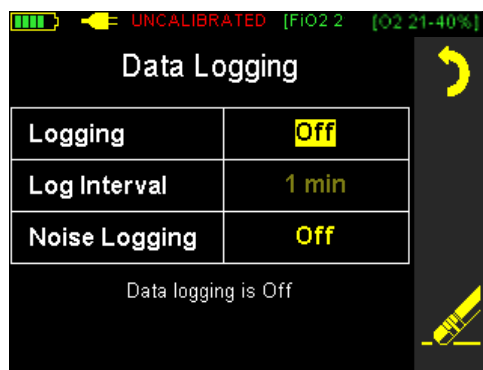

Figure I-2
- a. To access the **Data Logging Screen** (see Figure I-2) to set the logging parameters, select **Data Logging** from the **Main Menu**.